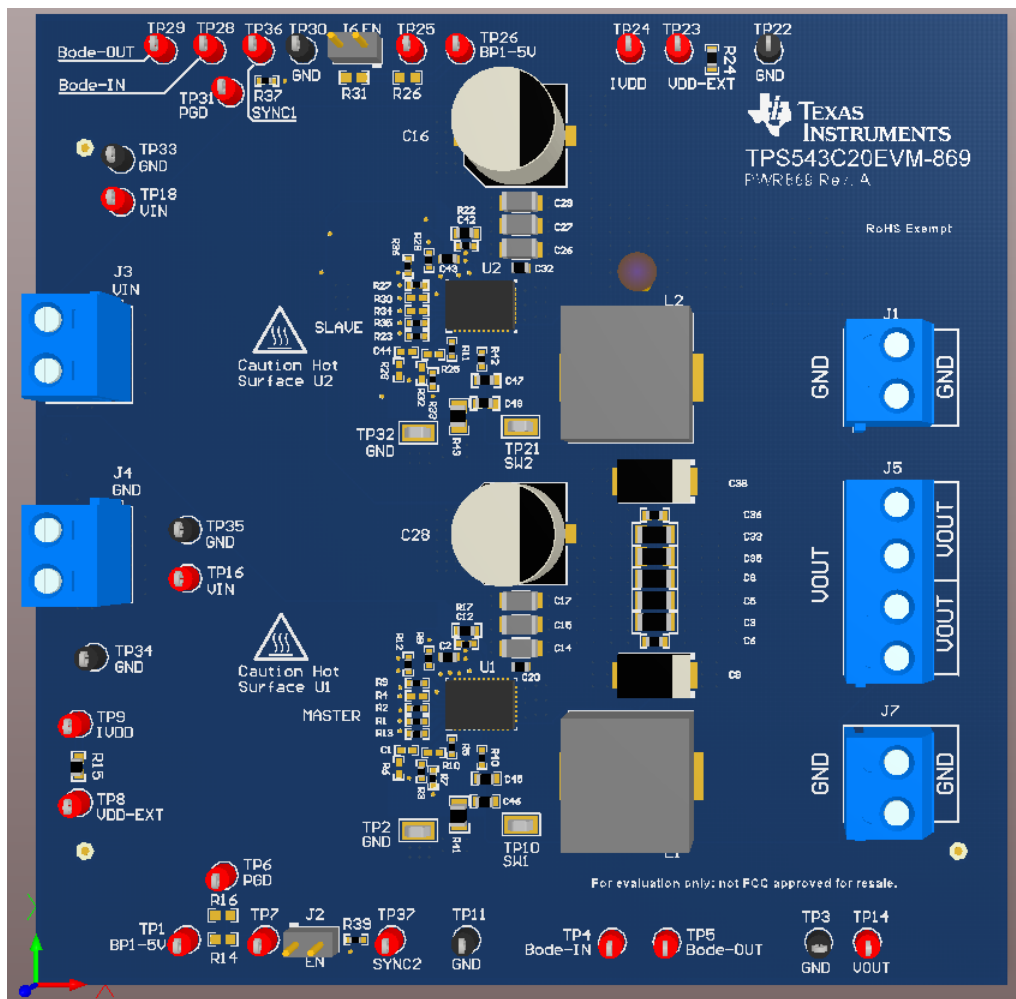

Figure 2. TPS543C20EVM-869 Overview
1. Connect the electronic load (+) to J5 and electronic load (–) to J1 and J7 (Figure 2).
4. Connect input power supply (+) to J3 and input power supply (–) to J4 (Figure 2).